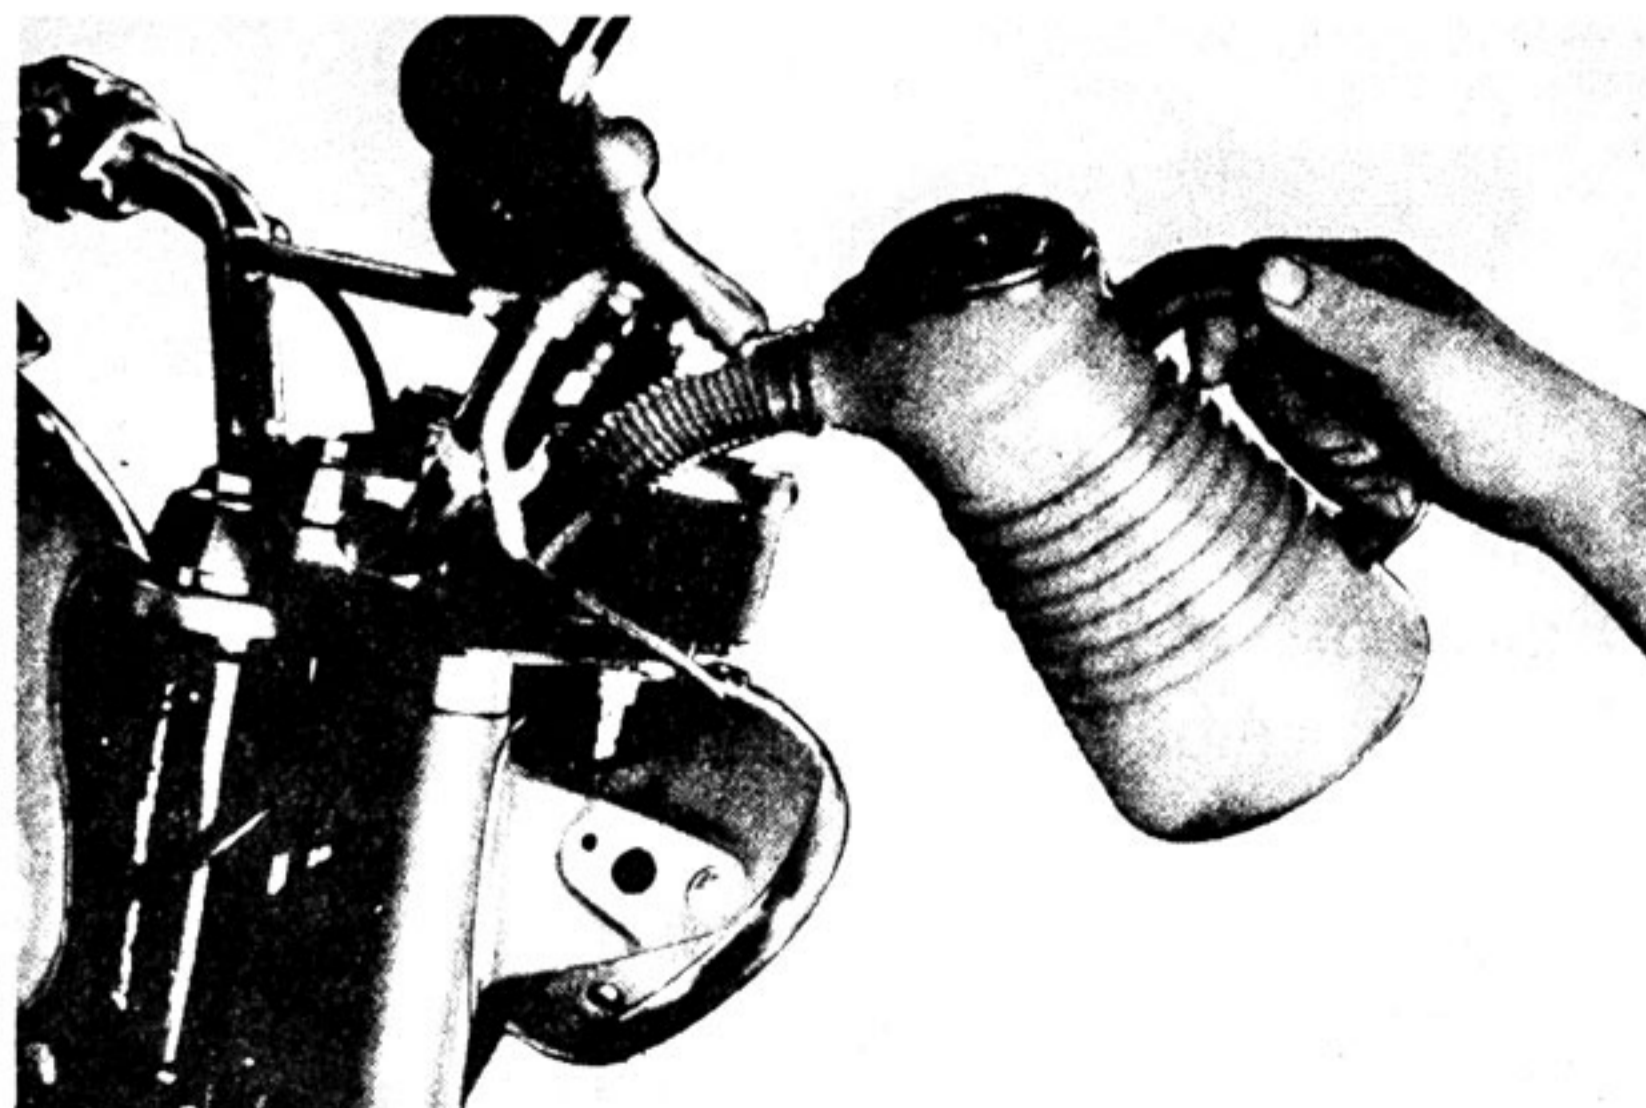

Fig. 5-7-8
- b. Fill the inner tube with the specified front fork oil, pouring through the top end opening of the tube. (Fig. 5-7-8)